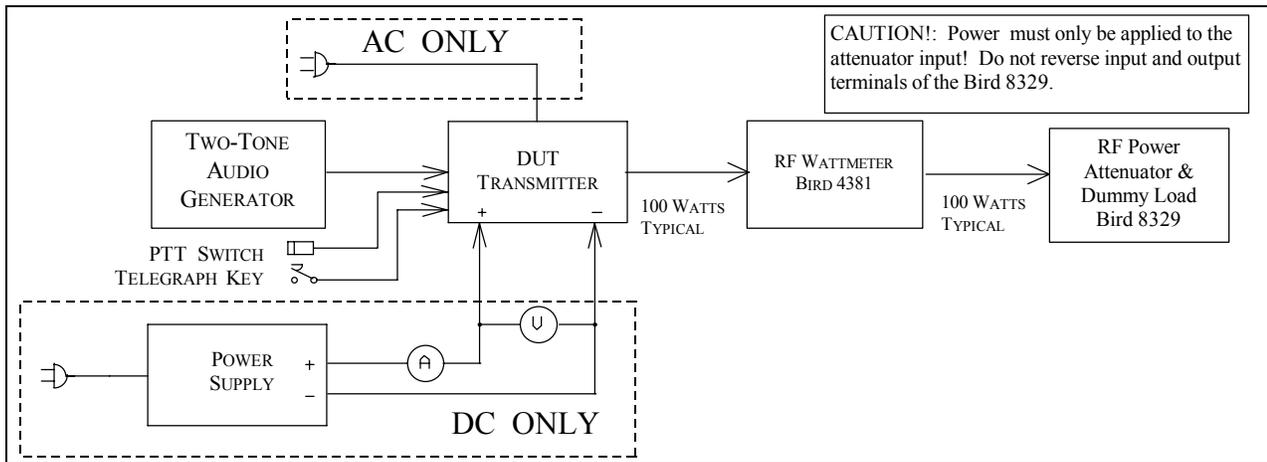

Fig. 6-1 — Chamber Test Hook-up
#### 6.1.2 Test hook-up (See Fig. 6-1)
6.2.2 Test Hook-up (See FIGURE 6-1)